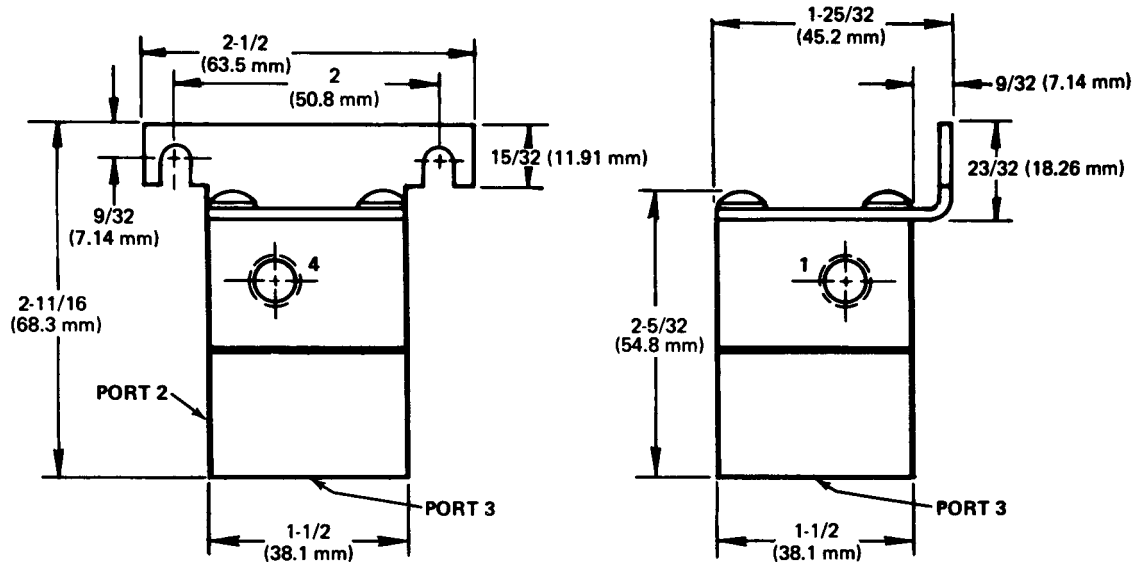

Figure 1
**Dimensions:** ..... See Figure 1
The relay may be installed in any position, but vertical (upright) is recommended. The relay should be securely mounted, using the two slots (clearance for No. 10 screws), provided in the mounting bracket (See Figure 1).